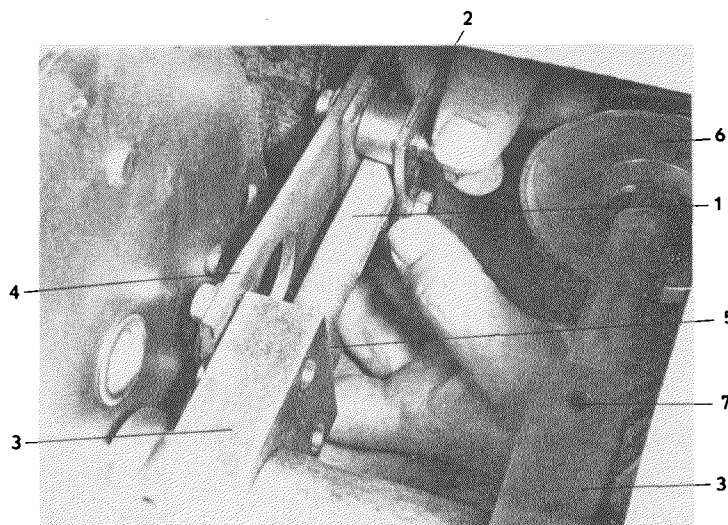
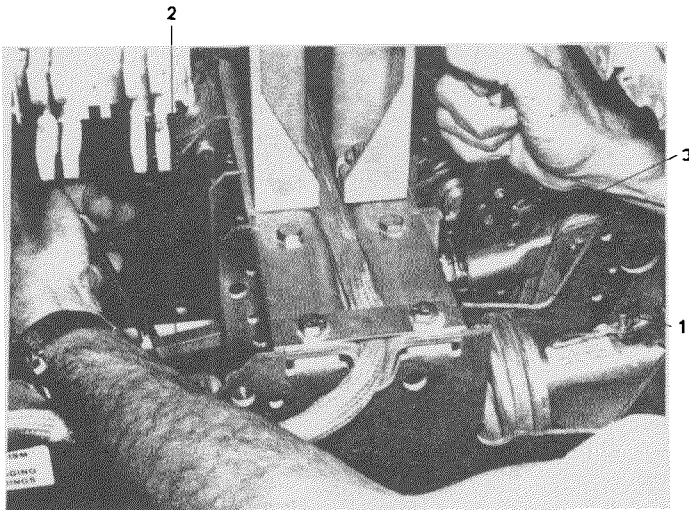

Fig. A10a Flywheel Brake
Fig. A10b Pull Rod
To remove the brake, remove the clamp, (2) Fig. A10a, that holds the brake assembly to the pullrod and then remove the two bolts that mount the brake to the flywheel block. Reinstall the new brake in the reverse order.
Charge and gag the closing spring and press the manual close push button. Remove the flywheel brake assembly (Reference paragraph A.5.20). The pull rod is a turn buckle arrangement with right hand threads on one end and left hand on the other. Loosen the jam nuts, (5) Fig. A10a and (3) Fig. A10b, on each end of the pull rod and remove the pull rod by unscrewing it. Remove the jam nuts and install them on the new pull rod. Install the new pull rod and screw both ends in simultaneously. Set the length of the pull rod initially to approximately 13¾ inch between the flywheel block, (3) Fig. A10a, and the coupling, (1) Fig. A10b, attached to the adjustable throw transfer crank. Adjust the pull rod length as described in paragraph 5.3.
To remove the closing spring charge and gag it and push the manual close push button. Push the manual trip push button to assure that the breaker is open. Disconnect the closing spring assembly, (6) Fig. A10a, by driving the roll pin out that connects the closing spring assembly to the flywheel block. The closing spring can then be removed through the bottom of the breaker.
The closing spring can be removed by driving out the roll pin that connects the closing spring, (6) Fig. A10a, shaft to the flywheel block and then removing the left rear wheel assembly and the closing spring gag interlock on the left side frame. THESE OPERATIONS MUST BE PERFORMED WITH THE CLOSING SPRING DISCHARGED. The end of the closing spring opposite the flywheel can then be forced down from the breaker frame and the closing spring shaft pulled out of the flywheel block.